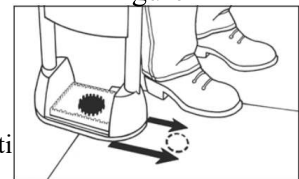

Figure 5
- Center red circle of the tool directly over the first plate. (Figure 5)